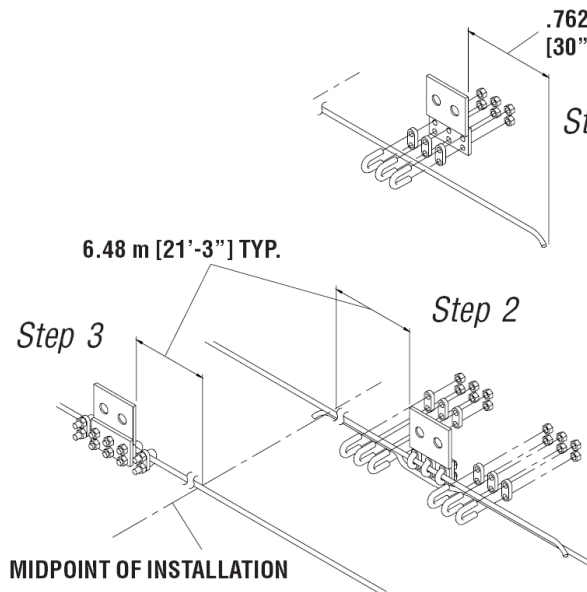

Figure 17
3) Fasten the drive cable attachment brackets to the drive cable (Figure 17).
Remove the Drive Cable Attachment Brackets from the Hook and Pin Gate Assemblies. Attach one Cable Attachment Bracket 20 to 30" from end of the long cable returning from the tension pulley (step 1, Figure 17). While maintaining some tension on the loose ends of the wire rope, release the retainer at the end of the Capstan Wall Assembly. Take out as much slack as possible, and splice the free ends together using the cable clips (Step 2, Figure 17).
Attach the other bracket an equal distance from assembly centerline (Step 3, Figure 17).